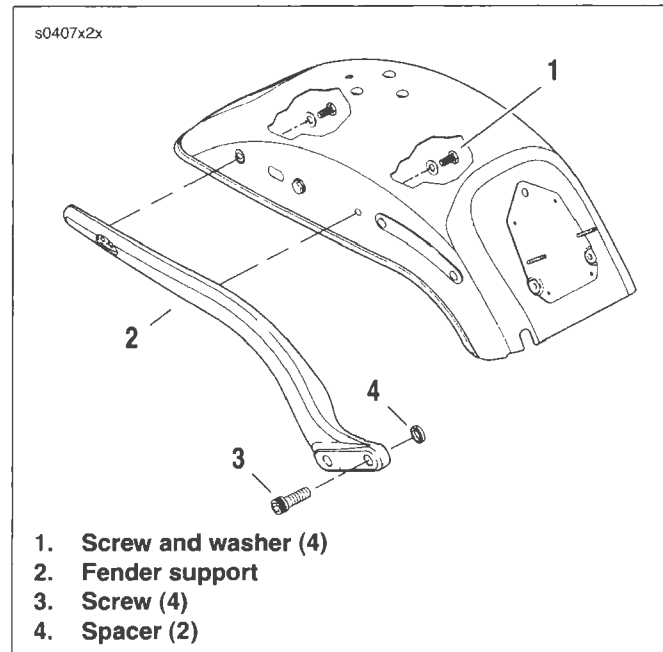
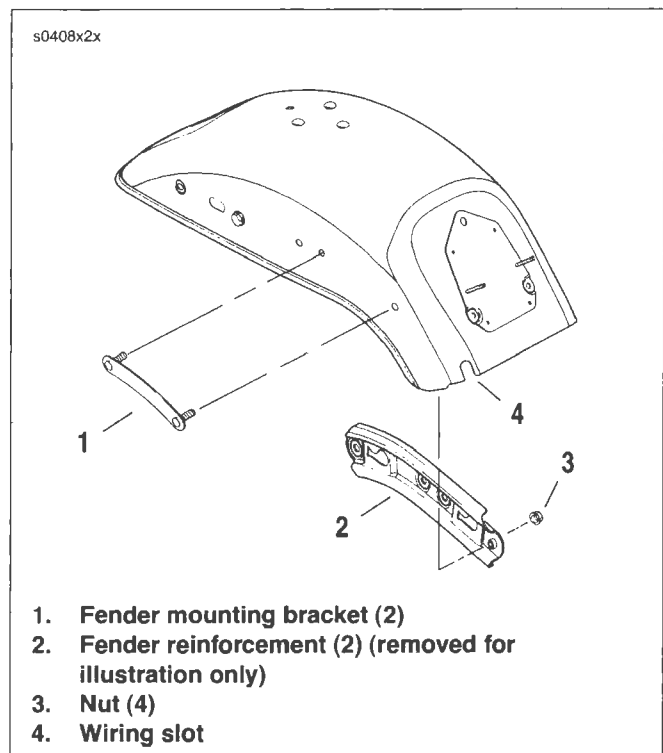

Figure 2-136. Rear Fender Support
Figure 2-137. Fender Mounting Bracket and Reinforcement
4. See Figure 2-136. Remove all fasteners from both fender supports (2).
- a. Remove screws and washers (1) from inside fender.
- b. Remove screws (3) and spacers (4) next to oil tank.
7. See Figure 2-137. Remove nuts (3) from both fender mounting brackets (1).
1. See Figure 2-137. Place fender over rear tire and inside frame tubes. Verify wiring for tail lamp harness and ECM connectors are not pinned under fender.
2. Loosely install both fender mounting brackets (1) using two nuts (3) on each side. When finished, final tighten to 20-25 ft-lbs (27.1-33.9 Nm).
3. See Figure 2-136. Apply LOCTITE THREADLOCKER 243 (blue) to screws (3). Install screws and spacers (4) to attach both fender supports (2). Spacers (4) belong on forward screws (3). When finished, final tighten to 14-16 ft-lbs (19.0-21.7 Nm).
5. Loosely install screws and washers (1) from inside of fender. Tighten to 12-15 ft-lbs (16.3-20.3 Nm).